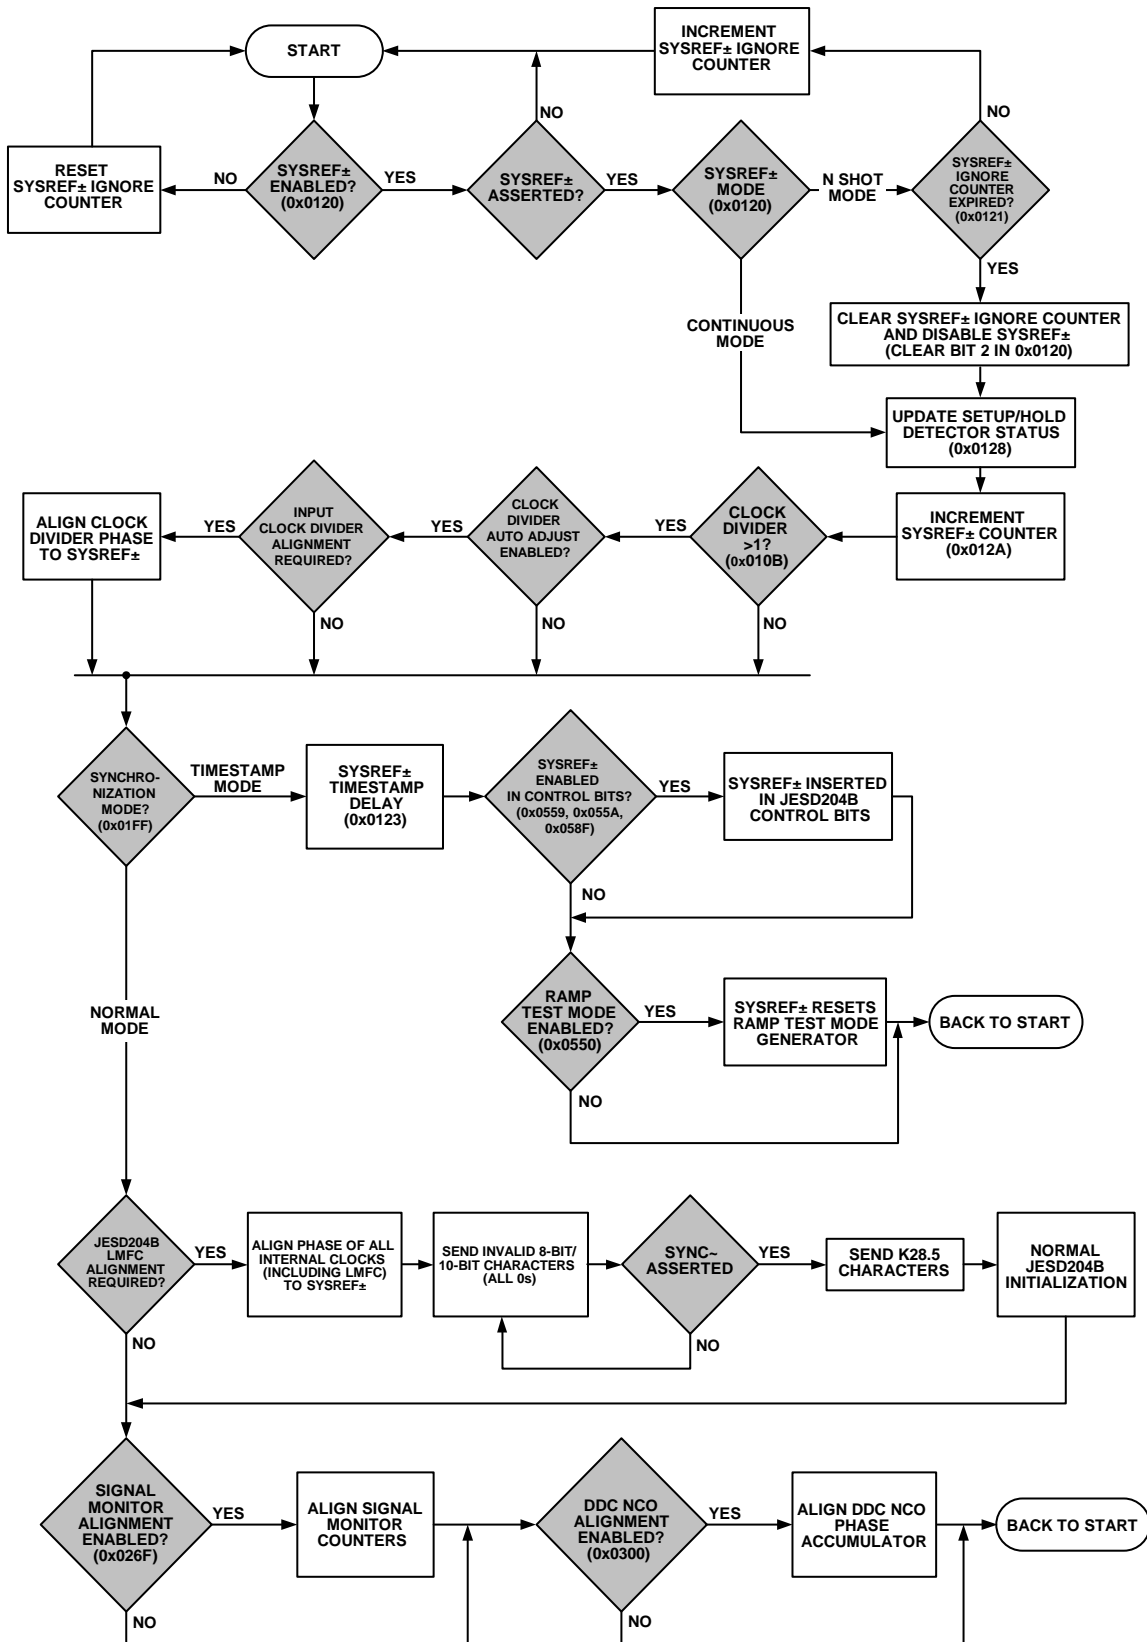

Figure 105. SYSREF± Capture Scenarios and Multichip Synchronization
The flowchart shown in Figure 105 describes the internal mechanism for multichip synchronization in the AD9697. There are two methods by which multichip synchronization can take place, as determined by the chip synchronization mode bit (Register 0x1FF, Bit 0). Each method involves different applications of the SYSREF± signal.
The default state of the chip synchronization mode bit is 0, which configures the AD9697 for normal chip synchronization. The JESD204B standard specifies the use of SYSREF± to provide deterministic latency within a single link. This same concept, when applied to a system with multiple converters and logic devices, can also provide multichip synchronization. In Figure 105, this is referred to as normal mode. Following the process outlined in the flowchart ensures that the AD9697 is configured appropriately. Consult the logic devices user intellectual property (IP) guide to ensure that the JESD204B receivers are configured appropriately.